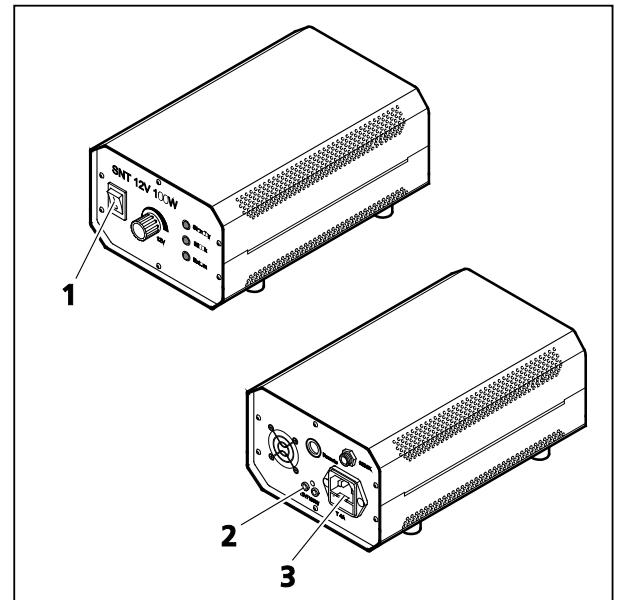

Figure 3-30 External power supply unit for HAL 100 (front and rear side)
- Plug the three-pole HAL 100 illuminator plug into the separate external power supply unit (Figure 3-30/2).
- Connect the AC power socket of the external power supply unit (Figure 3-30/3) to a mains outlet using an AC power cord.
- Press the power button (Figure 3-30/1) to switch the HAL 100 halogen lamp either on or off.